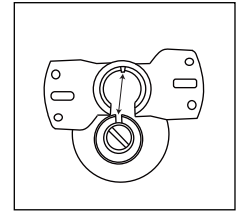

Figure 1
1. Insert the downrod ball head into the groove of the mounting bracket. (Figure 1)
- Your new ceiling fan will require a grounded electrical supply line of AC110~130V/60Hz15 Amp Circuit. Electrical code requires use of a fan-rated outlet box to support the extra weight and motion associated with a ceiling fan. A fan-rated box will be labeled as such and typically supports up to a 70lbs ceiling fan. Fan-Rated Outlet Boxes vary in rating and design. Ensure the ratings of your ceiling fan outlet box meet the requirements for the ceiling fan being installed. Figure 1, Figure 2 and Figure 3 depicts different structural configurations that may be used for mounting the outlet box.
- Low-profile use (Figure 1):